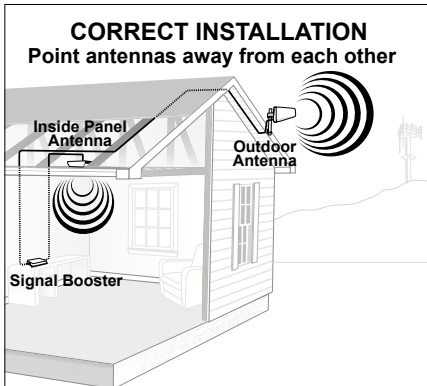

Figure 1
**Note:** Never point the front of a directional antenna toward the Inside Antenna. Refer to Figure 1 & 2 on page 12.